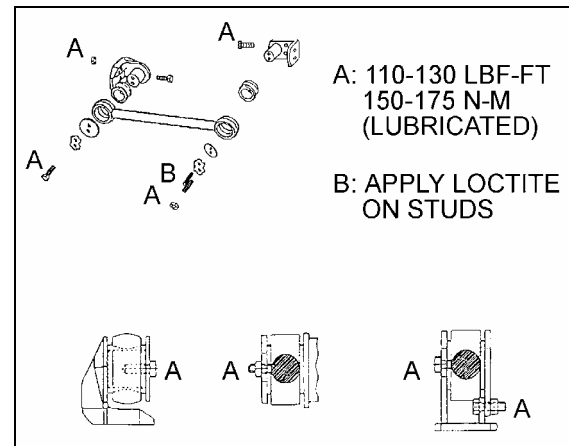

FIGURE 9: RADIUS ROD INSTALLATION
- Lightly spray the radius rod support with water. Place the radius rod end over the radius rod support (Fig. 9).